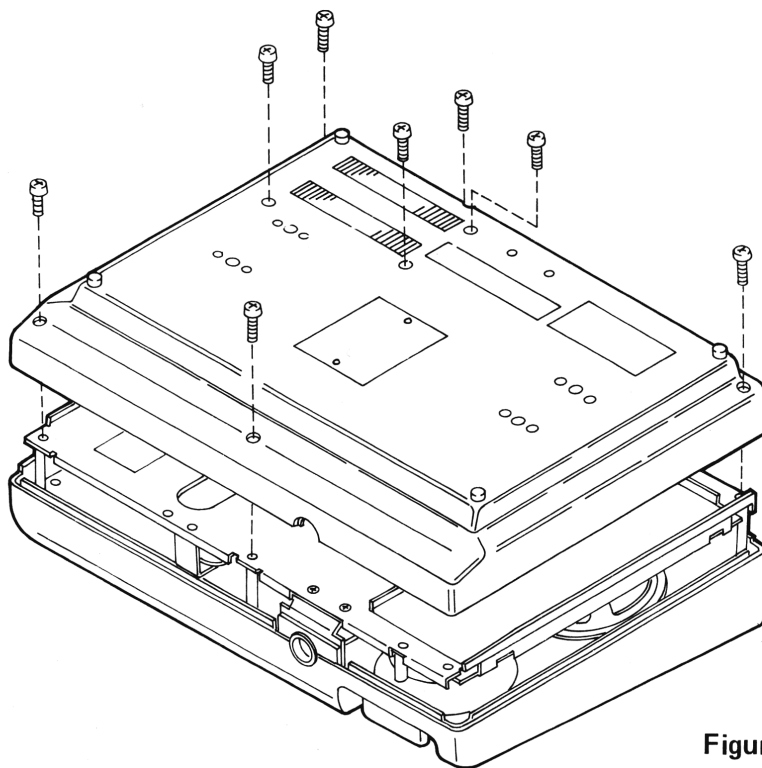

Figure 2
1. Remove 4 Knobs (81) and (82) .
2. Remove Special Nut (85) and Washer which comes with SWR CALibration Control.
3. Remove 8 screws (shown in Figure 2) on Cabinet bottom.
4. Remove 3 Stud Nuts (92) and Pan Head Tapping Screw (121) on Chassis assembly.